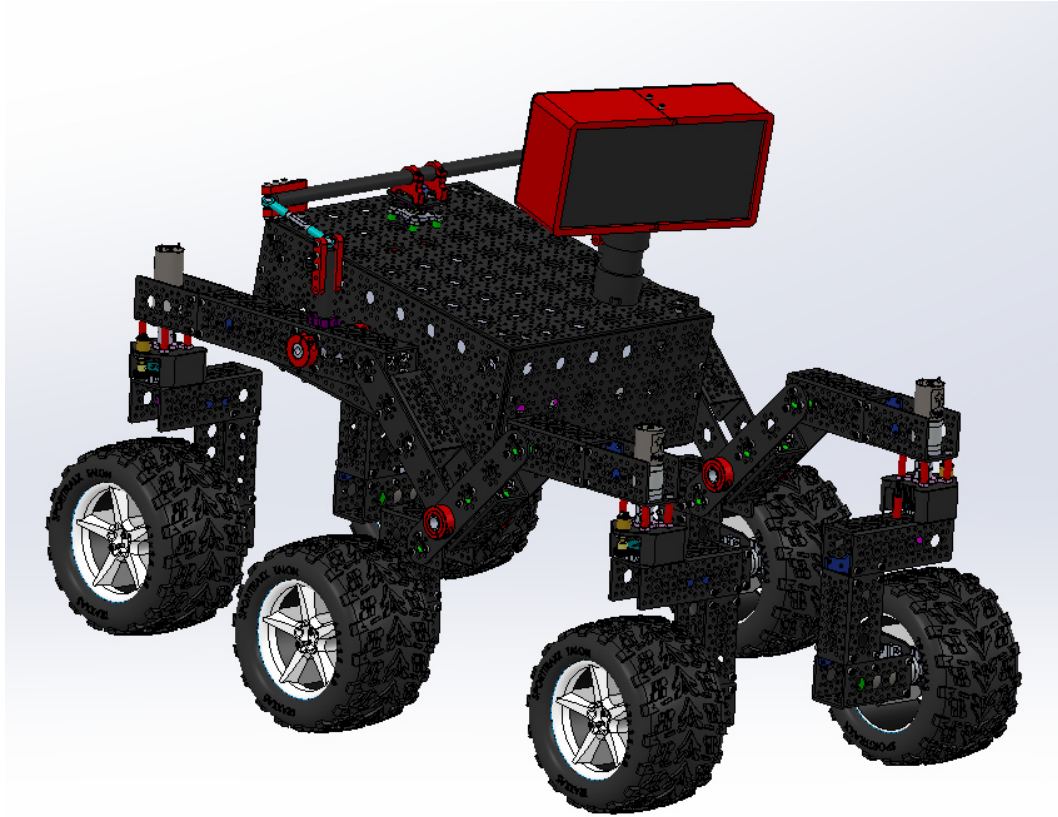

Figure 11: Final Mechanical Rover
2. **Checkpoint:** Your rover should now be fully assembled! Verify that your rover looks like the rover in Figure 11.